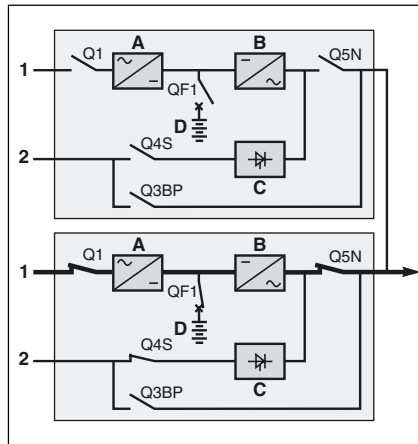

Fig. 27
See figures 27 and 28 in the Appendix. During maintenance, a UPS unit must be isolated from the normal AC source, its battery and the output circuits of the other UPS units.
► isolate one UPS (see figure 27)